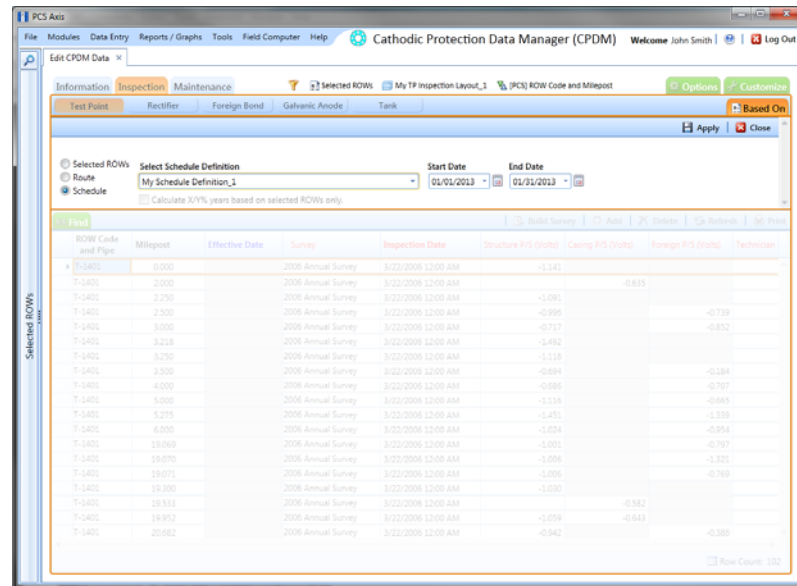

Figure 6-29. Based On Schedule
- 5 Click the **Based On** tab **Based On** and then select **Schedule** (Figure 6-29, page 193).